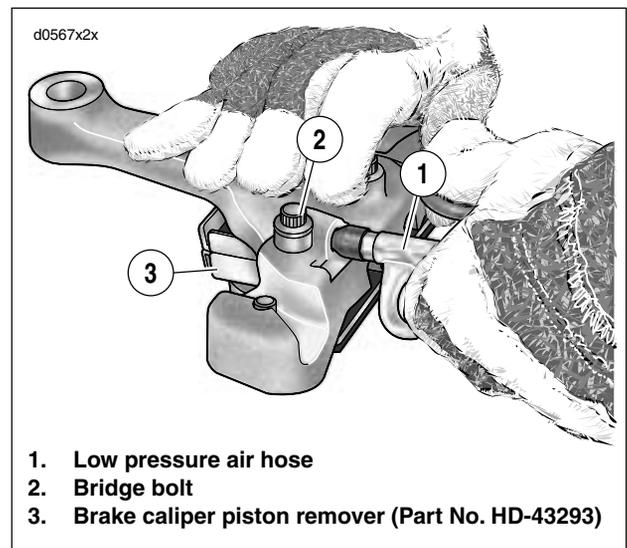

Figure 2-57. Removing Pistons
5. See Figure 2-57. Remove pistons.